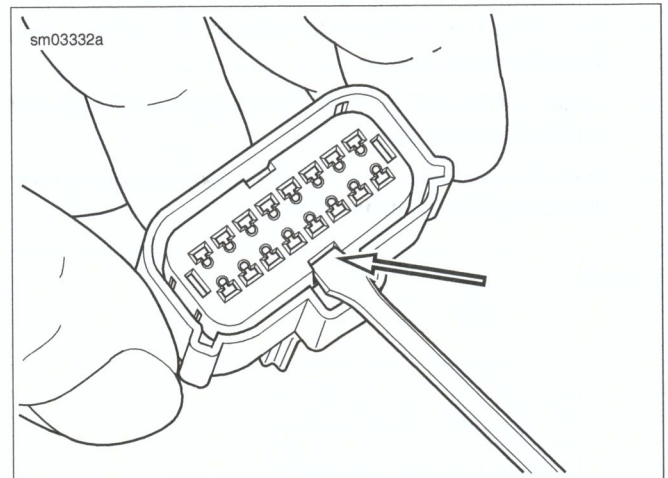

Figure A-13. Secondary Lock Pry Slot (Socket Housing)
- a. **Socket housing:** See Figure A-13. Use a small screwdriver in the pry slot. The slot next to the external latch provides a pivot point.